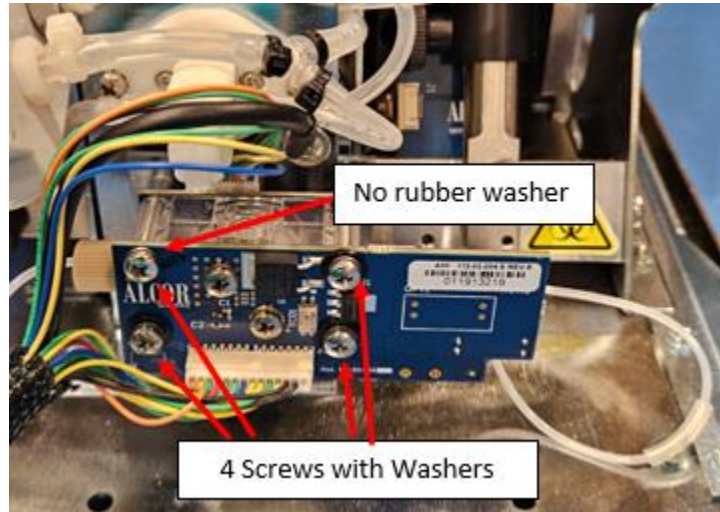

Figure 14
- 2.13. Remove the Reading Cell from the mounting plate by removing 4 screws and washers. Figure 14. Note the location of the screw with no rubber washer.